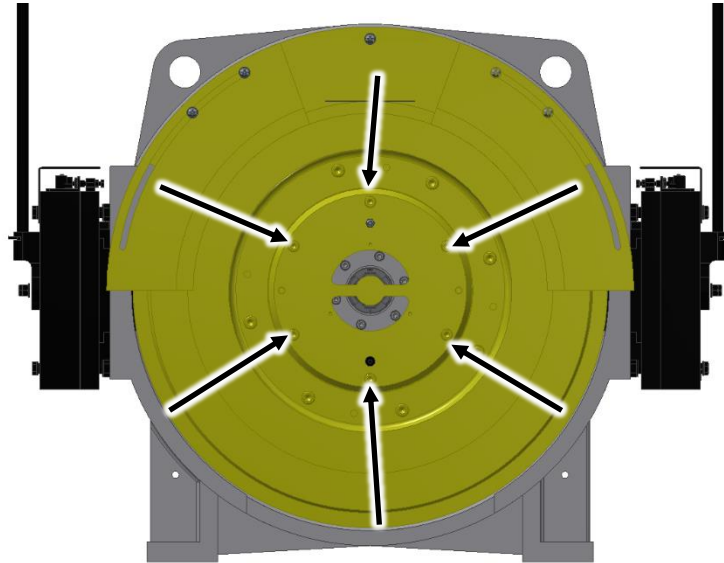

Figure 19
5. Remove the six M10 bolts (using a hex wrench (8mm)). See Figure 19.